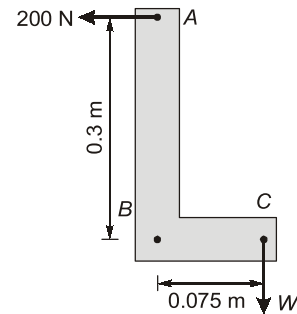

Fig. 1.16
**Q.5** A horizontal force of 200 N is applied at 'A' to lift the load  $W$  at C, as shown in figure 1.16. Value of weight  $W$  is